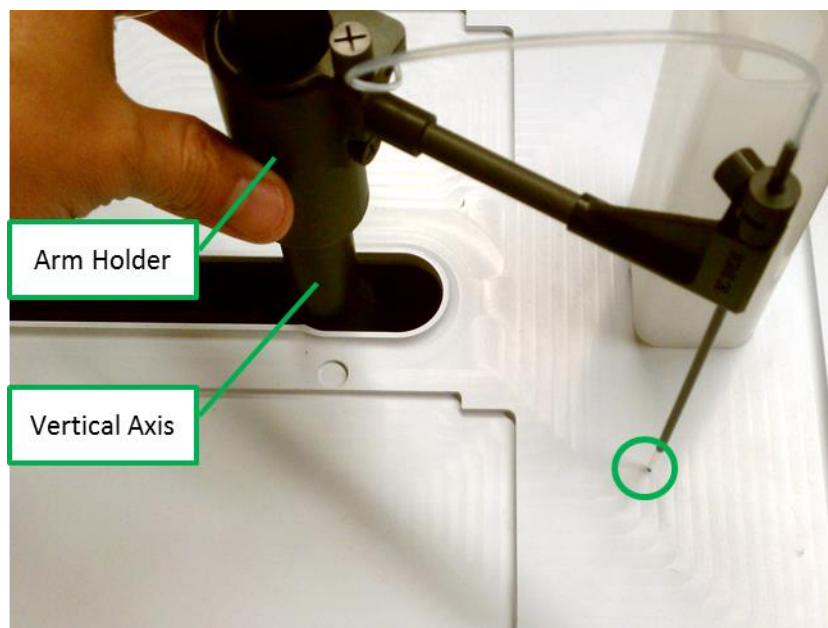

Figure 5: Proper position of probe over Calibration Point.
- 5) Now with the screw still loosened from Step 3), and with the probe in place, rotationally adjust the arm until the probe tip is on the calibration spot. Do not disturb (rotate) the vertical post from its position to ensure better accuracy. See Figure 5.